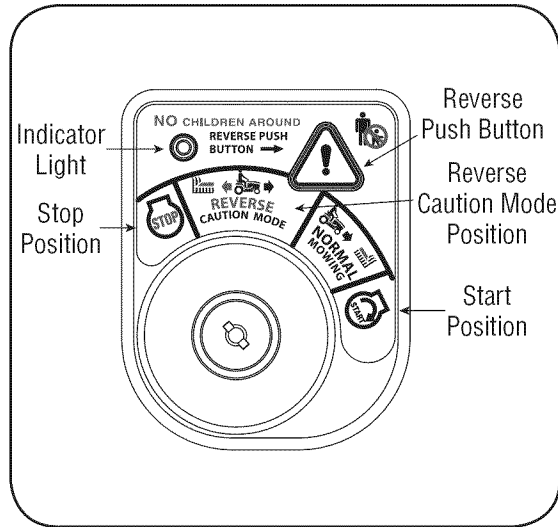

Figure 12
2. Turn the key from the **NORMAL MOWING** (Green) position to the **REVERSE CAUTION MODE** (Yellow) position of the key switch module. See Figure 12.
3. Depress the **REVERSE PUSH BUTTON** (Orange, Triangular Button) at the top, right corner of the key switch module. The red indicator light at the top, left corner of the key switch module will be **ON** while activated. See Figure 12.